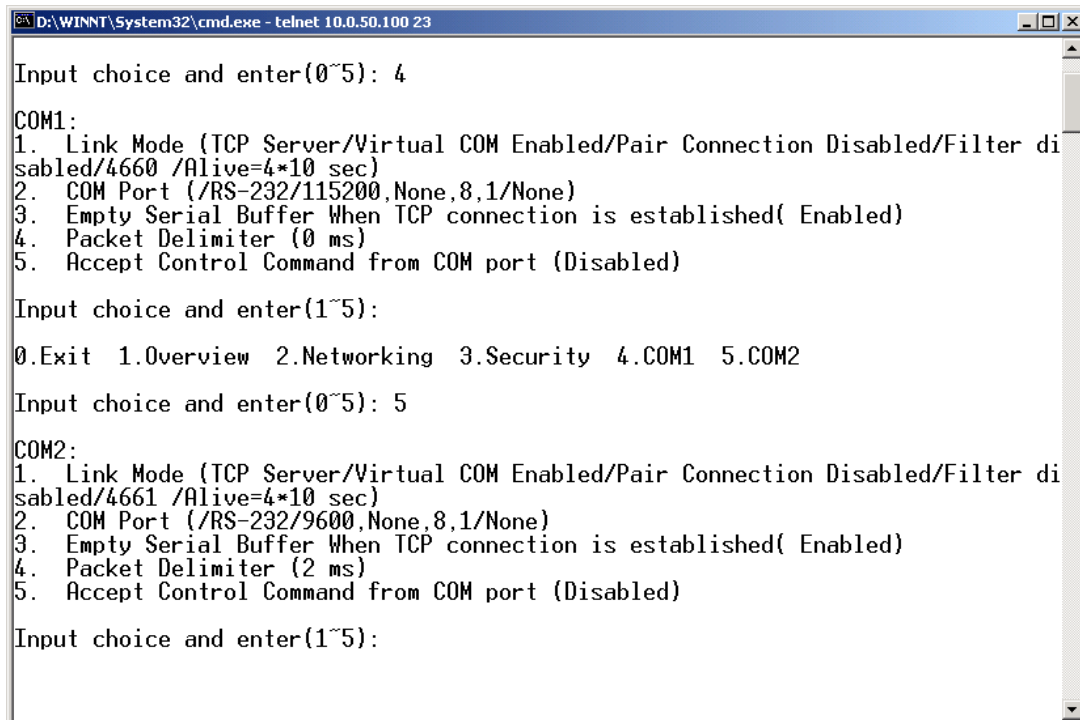

Fig. 13. changing password using Telnet
1. Select "3" on "Input choice and enter (0~5):" (Fig. 13).